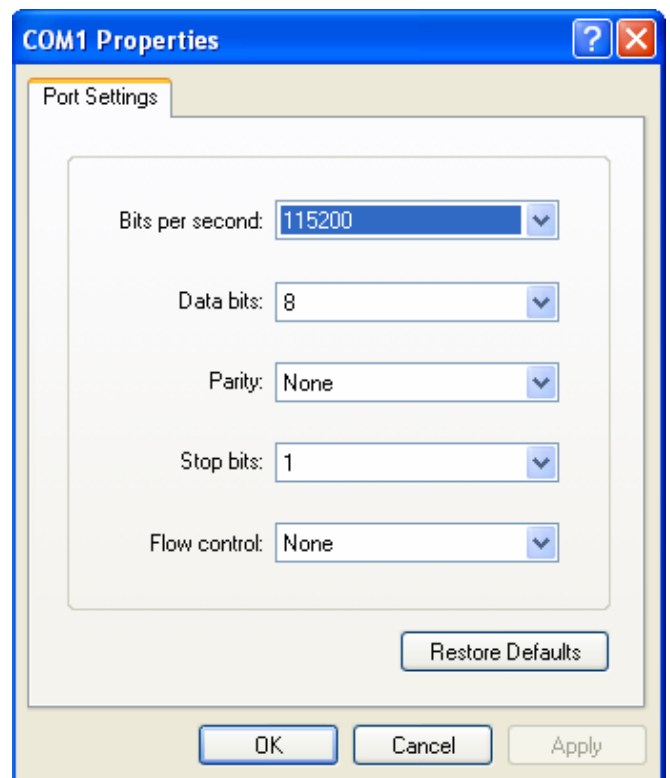

Figure 3. **Hyper Terminal “Properties”**
4) If you are not sure which COM port you connected T-BoxN12R to, you could try to detect that with Hyper Terminal utility. This program is usually found in Windows 98/ME/200/XP. You should find it in “Start->Programs->Accessories->Hyper Terminal”. If you can’t find it, it could possibly be not installed. You should click “File->Properties” in the main Hyper Terminal window. Select the first possible COM port and click “Configure”. You should select the settings as shown in Figure 3. Then click “OK” to close “COMx Properties” window and click “OK” to close “Properties” window. Then click “Call->Call”. You should see something similar to Figure 4. New characters should appear instantly. If they do, the selected COM port is the one, to which T-BoxN12R is connected. If not, there is no connection and you should try the